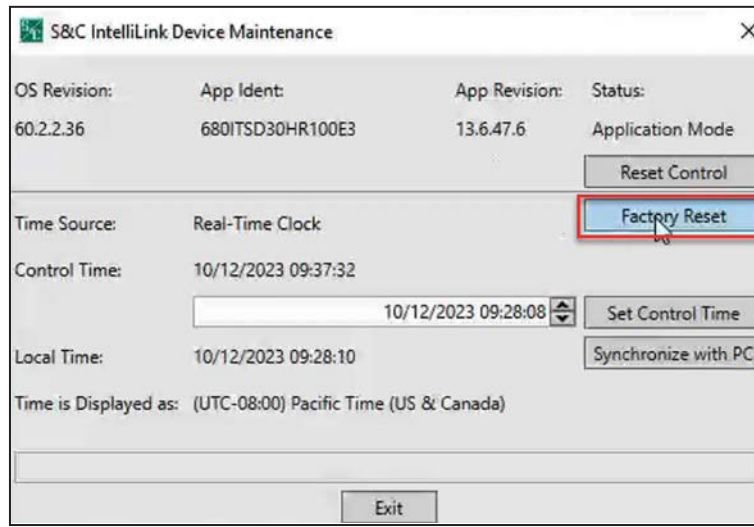

Figure 130. The Factory Reset button.
STEP 3. When the Device Maintenance dialog box opens, click on the **Factory Reset** button to launch the **Factory Reset** procedure. See Figure 130.